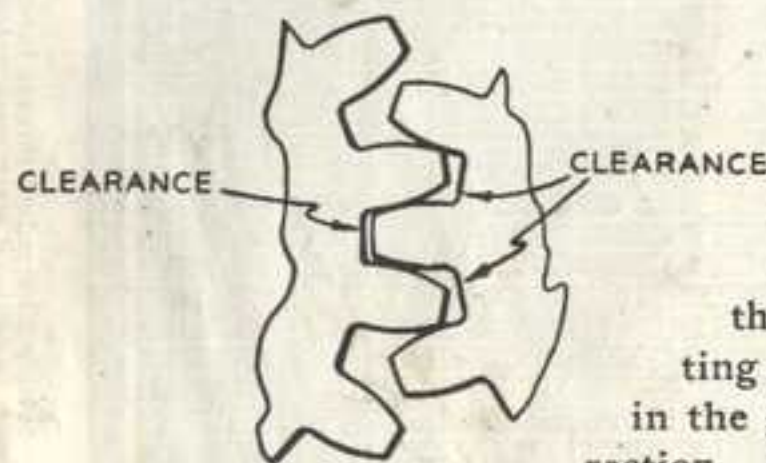

FIG. 6. Proper gear clearance.
When setting up the gear train, be sure to allow sufficient clearance between two meshing gears (Fig. 6). Gear clearance does not reduce the accuracy of a thread cutting operation, because all play in the gears is taken up in one direction. A method often used to obtain proper gear clearance is: (1) Place a sheet of thick writing paper between the teeth of the two meshing gears, (2) tighten gears in position, and (3) remove paper. A small amount of grease, preferably graphite grease, applied to gear teeth will often aid in obtaining smoother, more quiet operation.